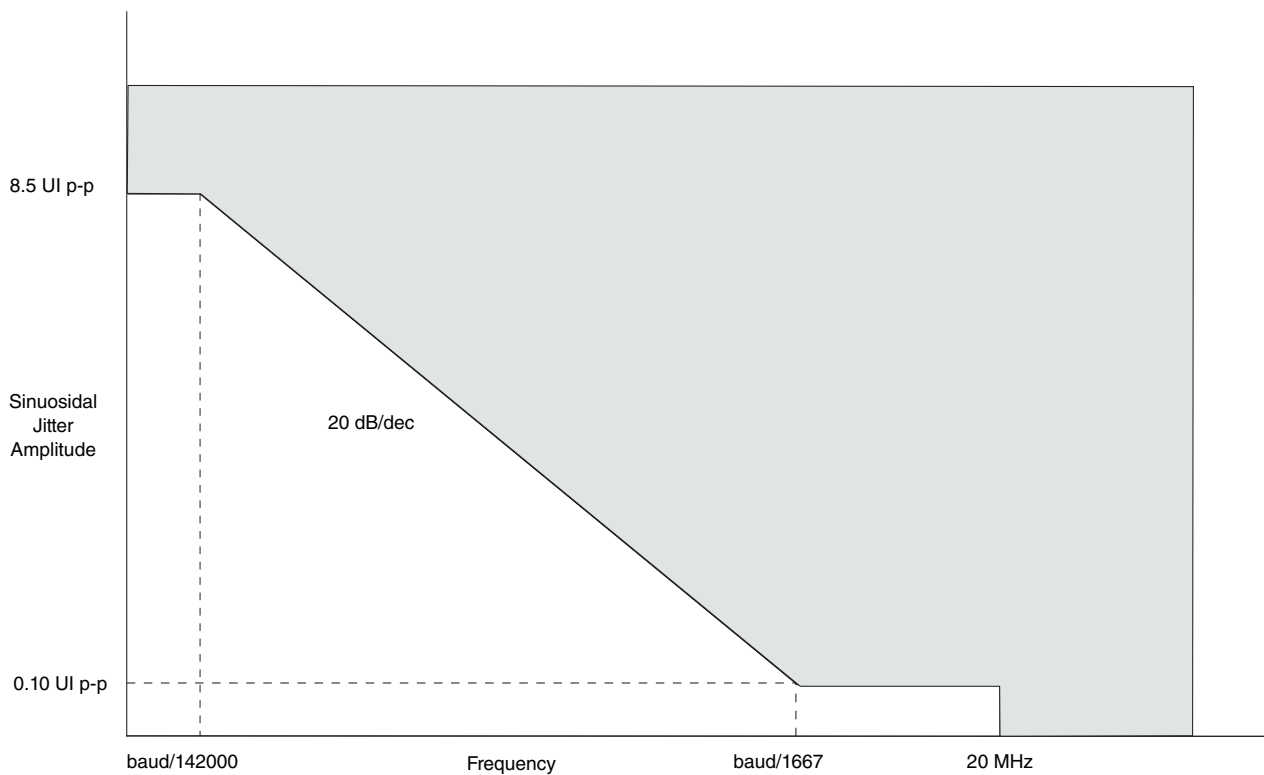

Figure 17. Single-frequency sinusoidal jitter limits
- See Figure 17 for single frequency sinusoidal jitter measurements.